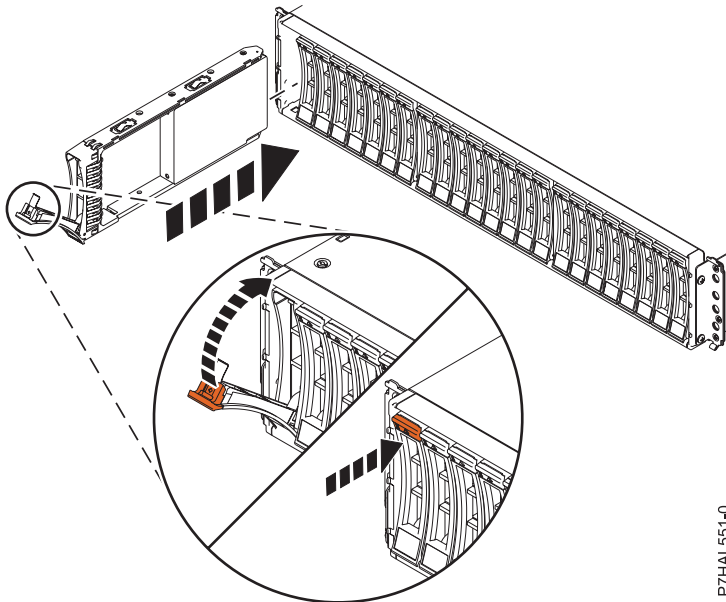

Figure 9. Installing the disk drive in the 58/87 disk drive enclosure
1. With the handle in the unlocked position, as shown in Figure 9, support the bottom of the drive as you align it with the guide rails in the expansion unit.